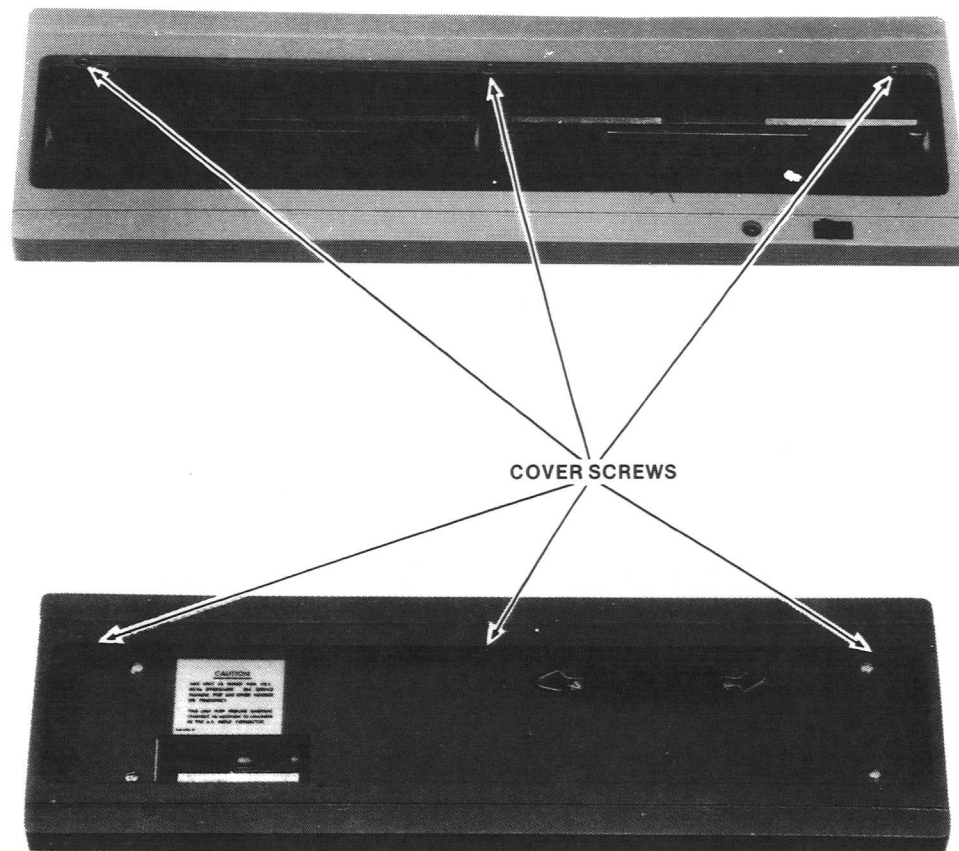

Figure F-2. Dual Drive Chassis Top Cover Removal
- d. Referring to figure F-2, remove the six Allen screws that secure top cover panel to drive chassis (a 7/64-inch angled Allen wrench is required) and remove top cover panel.